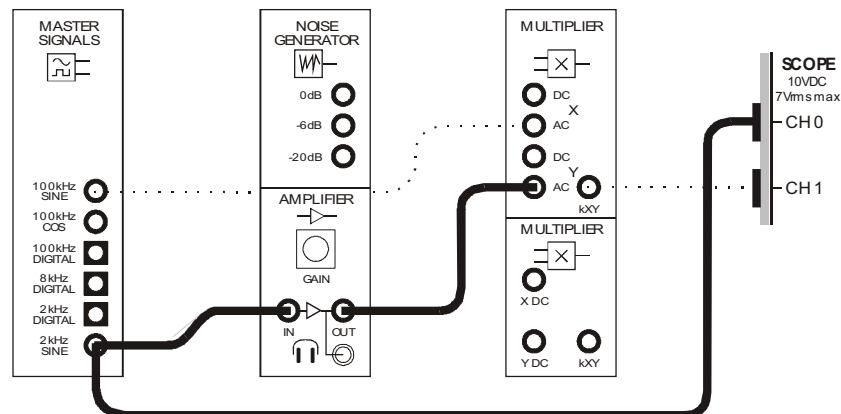
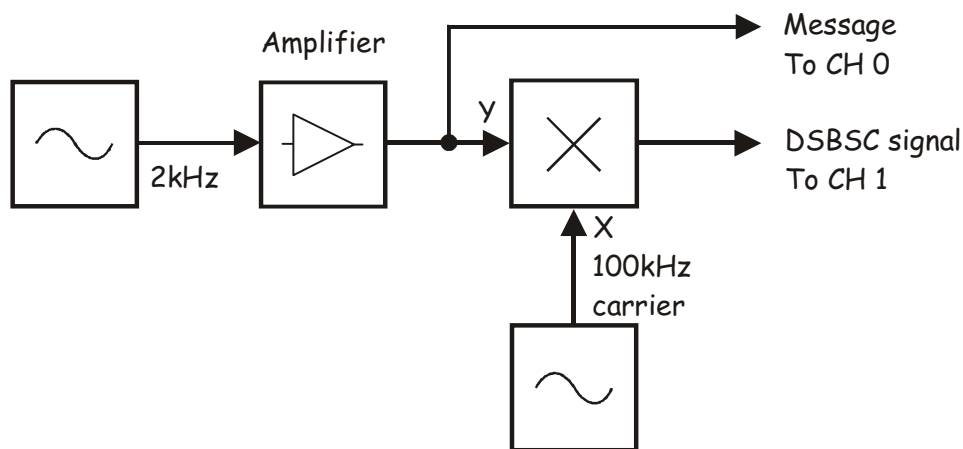

Figure 7
Figure 8
24. Modify the set-up as shown in Figure 7 below.
The set-up in Figure 7 can be represented by the block diagram in Figure 8 below. The Amplifier allows the message signal's amplitude to be adjustable.